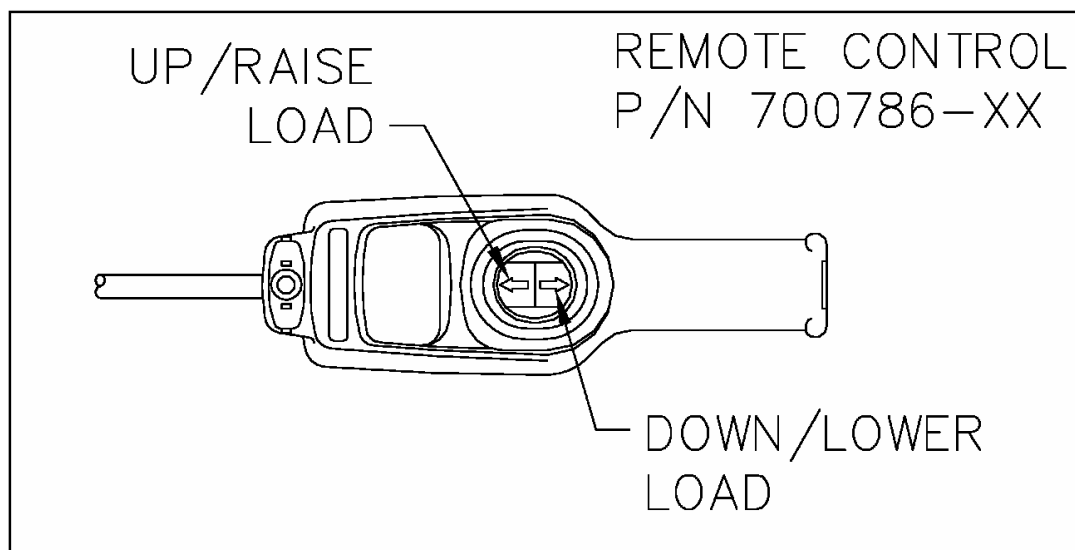

Figure 9.
2. The remote control to be used with the material hoist electrical kit is the remote control part number 700786-XX, where XX denotes the length of the remote cable in feet. The remote is available in lengths up to 60ft, however the operator must be within reach of the emergency stop on the electrical box while operating the hoist. When using the ZMAC/1000® hoist the ZMAC/1000® remote adapter (700908-1) shall be used. When using the SC1000 hoist, the SC1000 remote adapter (701602-1) shall be used. The raising and lowering of the load is accomplished by using the up/down controls on the remote control. Refer to figure 9.